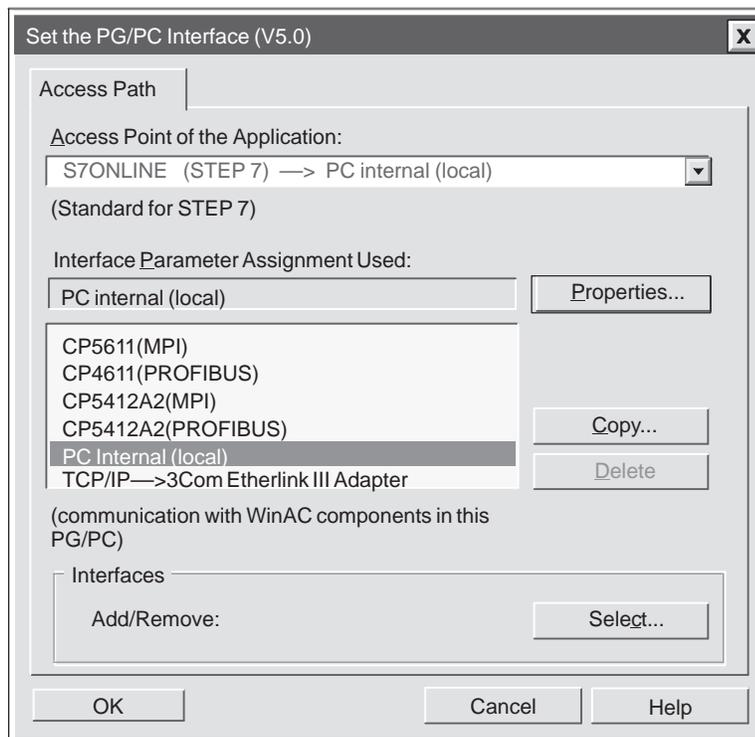

Figure 3-1 Setting the PG/PC Interface for PC Internal (local)
- From the “Access Point of the Application” drop-down list, select **S7ONLINE (STEP 7)** (Figure 3-1).